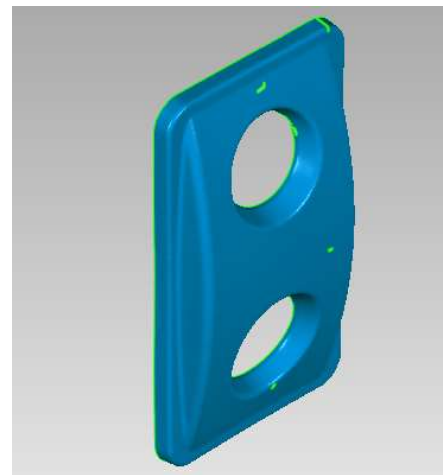

Figure 9
17. Select **Isometric View** from the **Predefined Views** fly-out on the **Right-Side Toolbar** to rotate the object into an isometric view as shown in **Figure 9**.